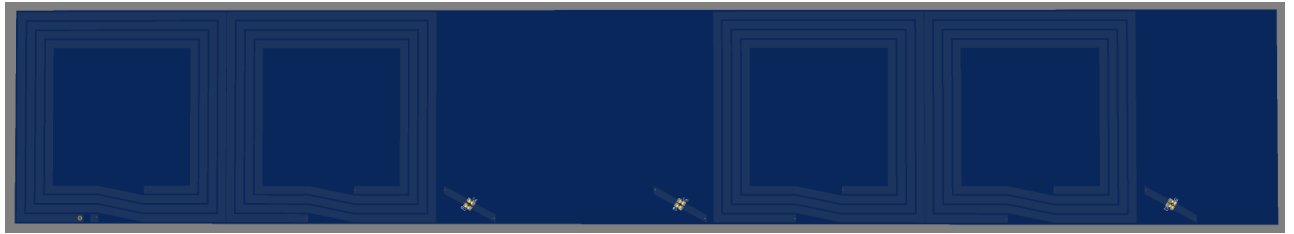

FIGURE 7
- Put 2 footprints of capacitor 0805 size and create pad and gap for SMA connector as show in Fig.7.